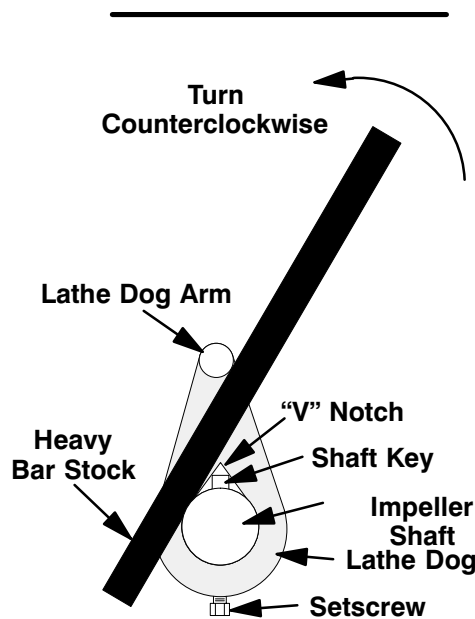

Figure 4. Loosening Impeller
Before loosening the impeller, turn the cross arm on the automatic lubricating grease cup (15) clockwise until it rests against the cover (see Figure 4 in **LUBRICATION**). This will prevent the grease in the cup from escaping when the impeller is removed.
With the impeller rotation still blocked, see Figure 4 and use a long piece of heavy bar stock to pry against the arm of the lathe dog in a counterclockwise direction (when facing the drive end of the shaft). **Use caution** not to damage the shaft or keyway. When the impeller breaks loose, remove the lathe dog, key and wood block.